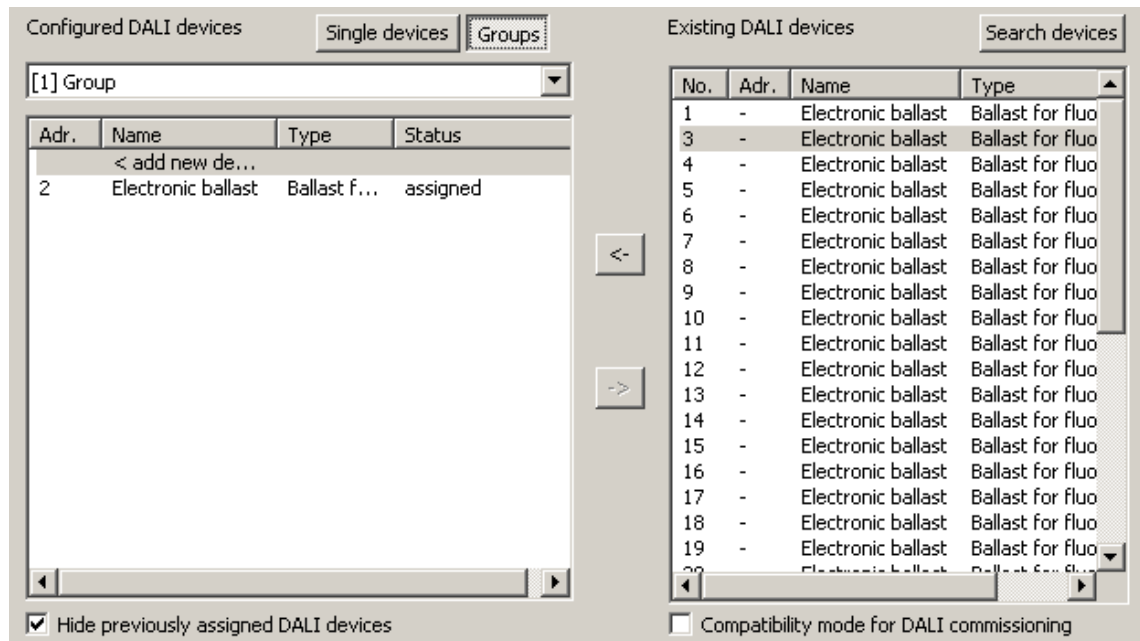

Figure 64: Operating device assigned to a group
- If new single devices are to be created (e.g. in empty groups), assign one or more found DALI operating devices using "<-" or "Drag and Drop" with the mouse. If an assignment is to take place to available free single devices, first highlight these in the left pane and then assign them using "<-" or, alternatively, using "Drag and Drop" with the mouse. In the right-hand section, the assigned operating devices disappear from the list box and appear in the left-hand section for the selected group (figure 64). The right-hand pane contains only the remaining operating devices, which are not yet assigned to a group.